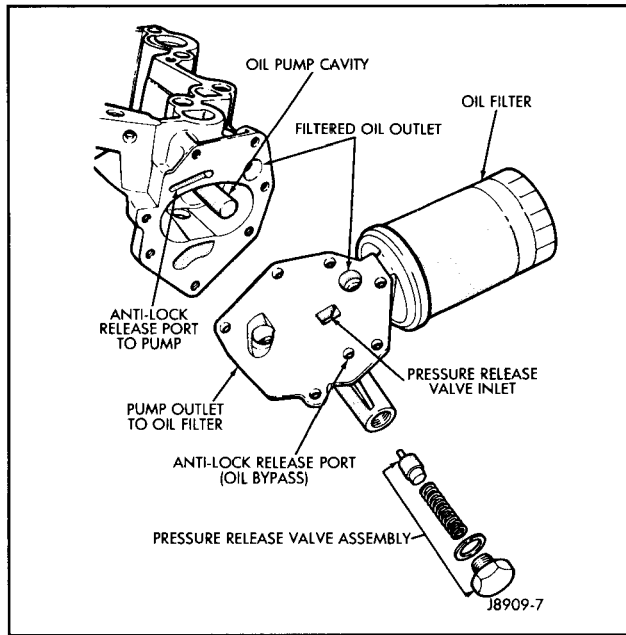

Figure 7-36
In the relief position, the valve permits oil to bypass through a passage in the pump cover to the inlet side of the pump (Figure 7-36).
1. Install the oil pressure relief valve in the pump cover with the spring and retaining cap (Figure 7-36).